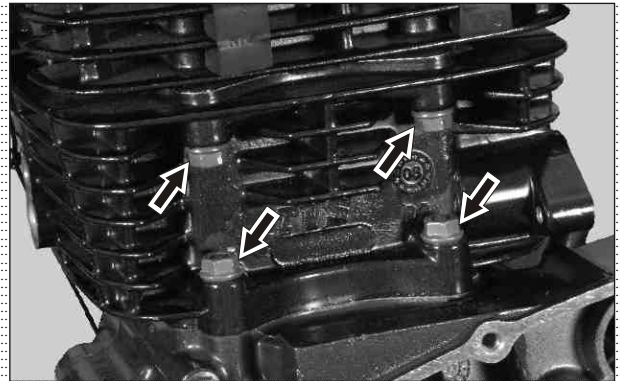

Fig. 3.79
- Remove hexagonal flange nuts (M6 - 2 nos) fastened to head complete cylinder and cylinder complete. (Fig. 3.79)
- Remove hexagonal flange nuts (M6 - 2 nos) fastened to cylinder complete and crankcase complete L. (Fig. 3.79)